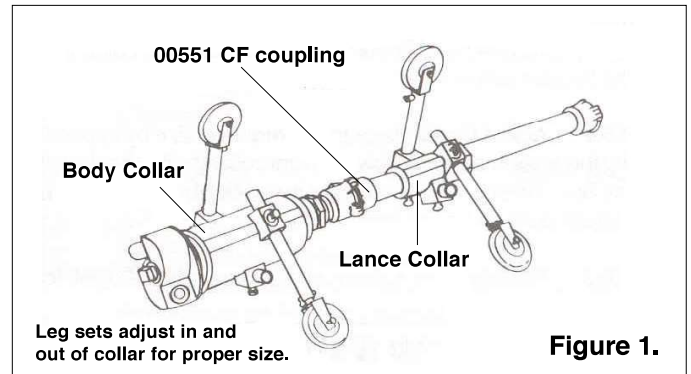

Figure 1.
2.2 Large Centering Carriage (for 12" to 36" I.D. pipe): The large carriage (Figure 1) consists of two cast collars, six wheels and three leg sets (six each).